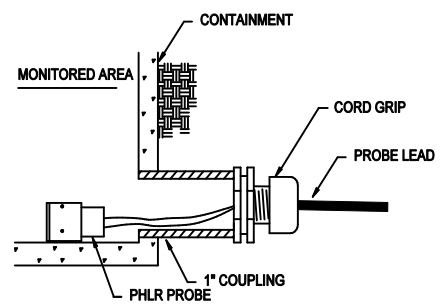

Figure 9-4
- The PHLR-P is designed for pressurized containment applications. This model is ideal for typical sealed, containment piping systems that are maintained under pressure with a nitrogen or air blanket. The PHLR-P should be installed in a vertical orientation. **The PHLR-P has vent holes that must not be submerged in a liquid before the containment is pressurized** (see figure 9-4).